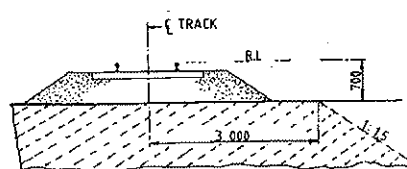

Fig. 1
- 10.1 Unless otherwise approved by the Contract Supervisor any excavation adjacent to a railway line shall not encroach on the hatched area shown in Figure 1.